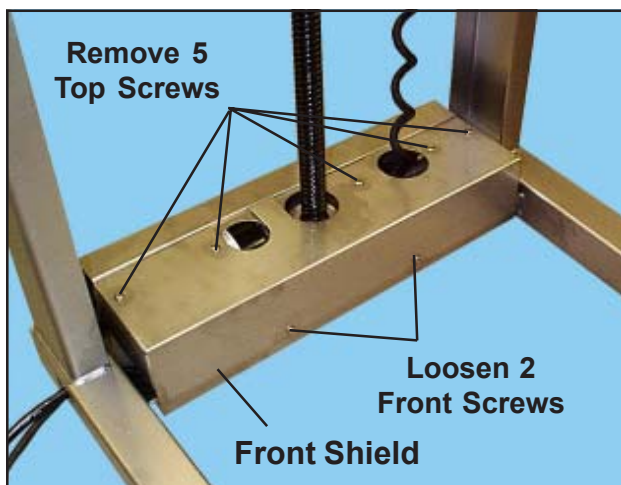

Figure 24. Removing the Front Shield
7. With a Phillips screwdriver, slightly loosen the two front screws, and remove the five top screws on the front shield (Figure 24).
17. Replace the front shield. Replace the five top screws and tighten the two front screws (Figure 24). **Note:** The actuator threaded shaft should be centered in the middle hole of the shields.